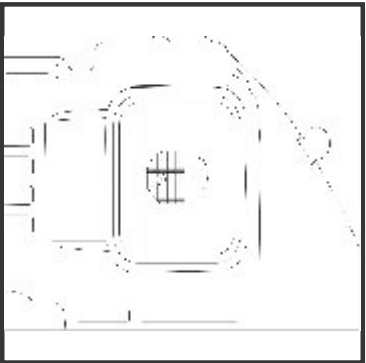

Figure 11
- a) Remove the sparks retaining grid fixing screw (Figure 11), using the screwdriver (supplied in the kit);